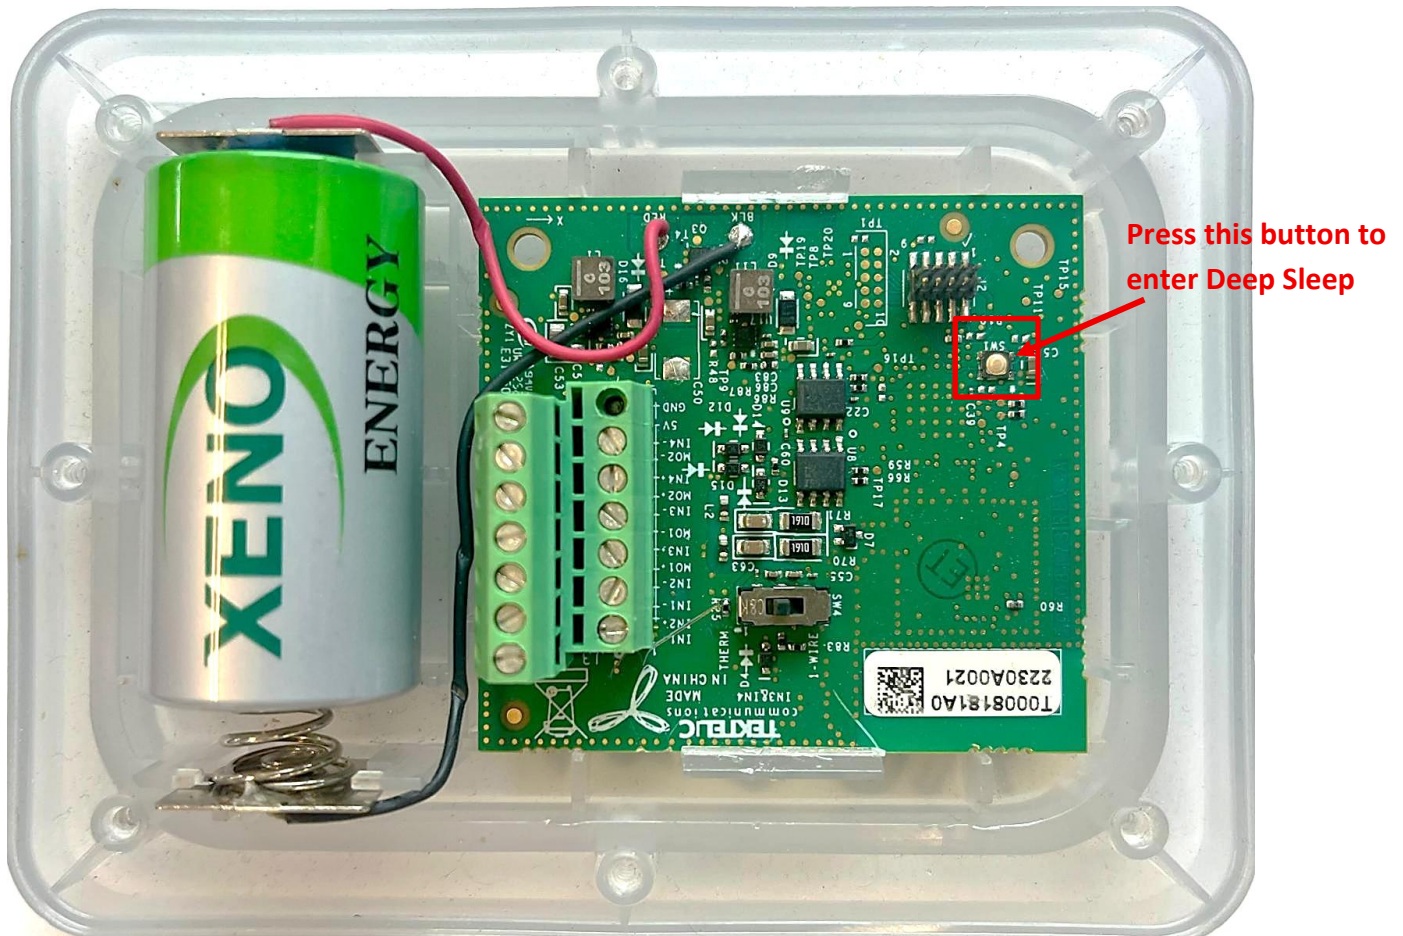

Figure 3: SW1 location
- 2) Locate the **SW1** button on the **PCBA**, as shown in **Figure 3**.